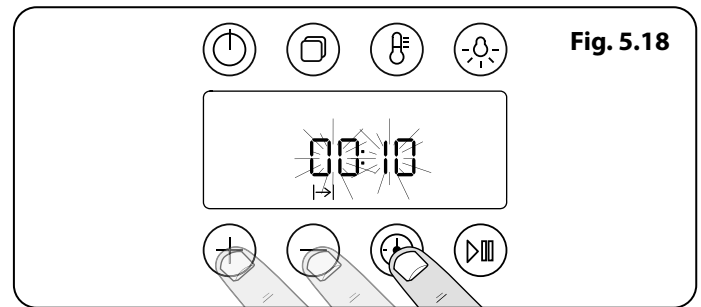

Fig. 5.18
2. Tap the timer button to set the 'cook period' hours using the [+] or [-] buttons. Tap the timer button again to set the minutes using the [+] or [-] buttons (**Fig. 5.18**).